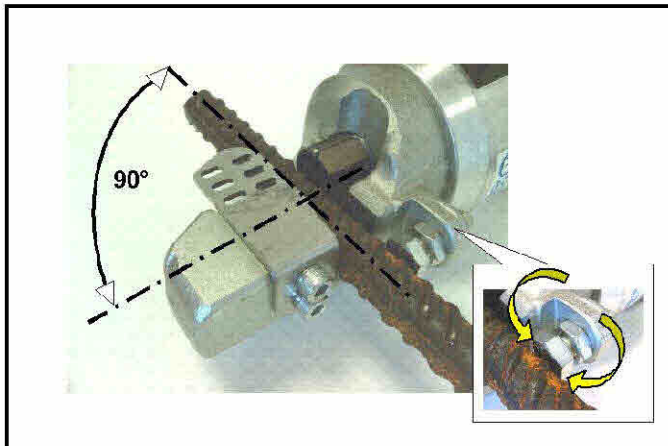

Fig. 3A
Position the blade perpendicular to the axis of the work piece (fig. 3A).
- a) Place the workpiece against the fixed blade and check screw of the head to ensure it is perpendicular to the machine axis (Fig. 3A). If necessary, adjust the check screw as indicated in Fig. 3A;